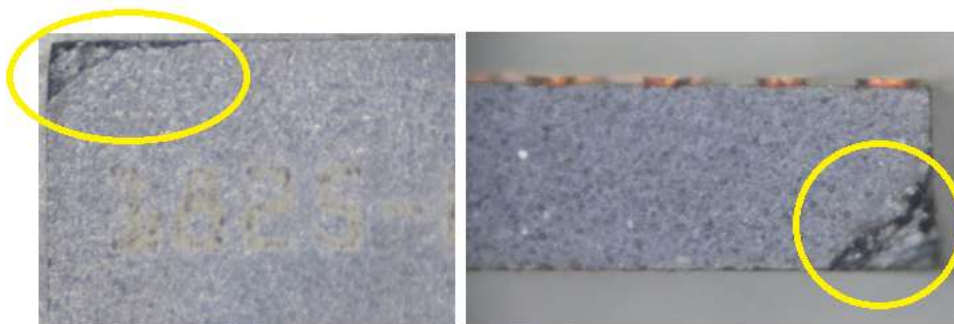

Fig. 5.0 Actual units with package chip out defects after 100% Visual inspection.
- Filed up trays with dislodged units experienced Z-axis down force pressure due to weight of loaded trays and force from operator when doing the removal of trays from tray output module. Figure 5.0 below shows sample of unit with package chip-out defect encountered by assembly related on dislodged units on tray.